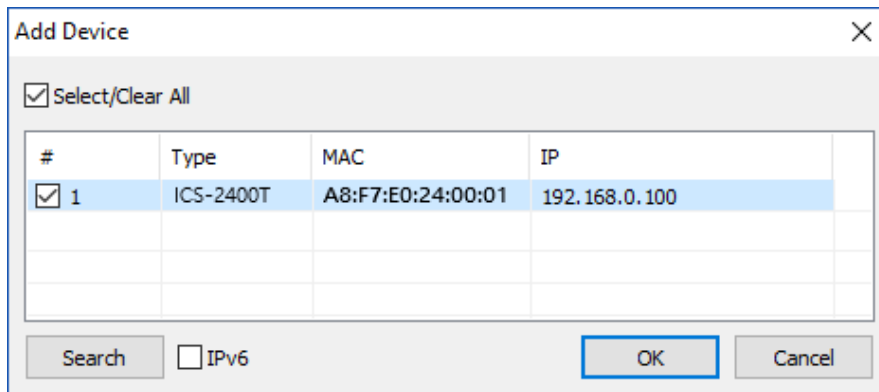

Figure 5-2-1 : Searching Devices
1. First click "Add Device" and then click "Search", if device has access to network, as shown in Figure 5-2-1.